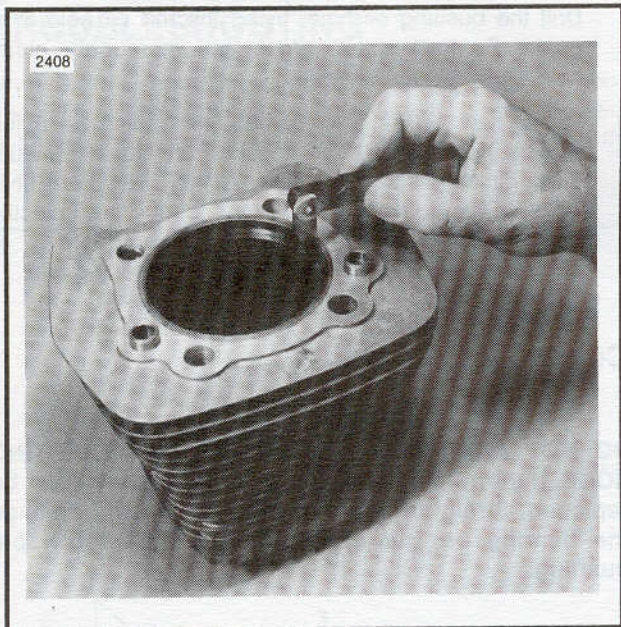

Figure 3-32. Check Ring Gap
1. See Figure 3-32. Check the end gap of both oil rings and the compression rings. Use the top of the piston to square the ring in the bore.